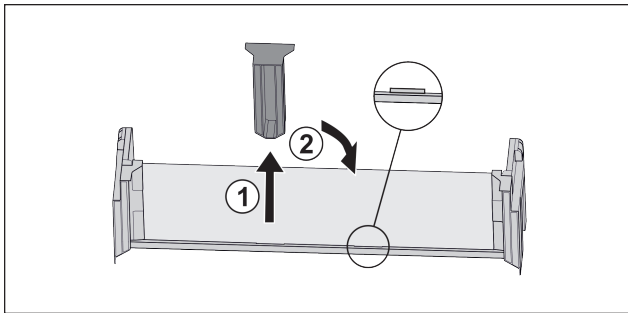

Fig. 54 *
- ▶ Pull off the middle holder Fig. 54 (1).*
- ▶ Insert the middle holder in the second position Fig. 54 (2).*